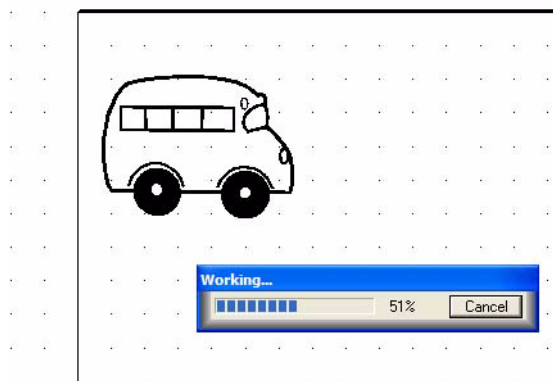

Figure 98
4 Using the Vectorizing wand, click on the image. See figure 98.
- If the **Working... box** appears, you have successfully vectorized the image, and you can go on to “Edit the Image” on page 65. The **Working... box** provides a running tally of the percentage of vectorization that is complete. See figure 98..